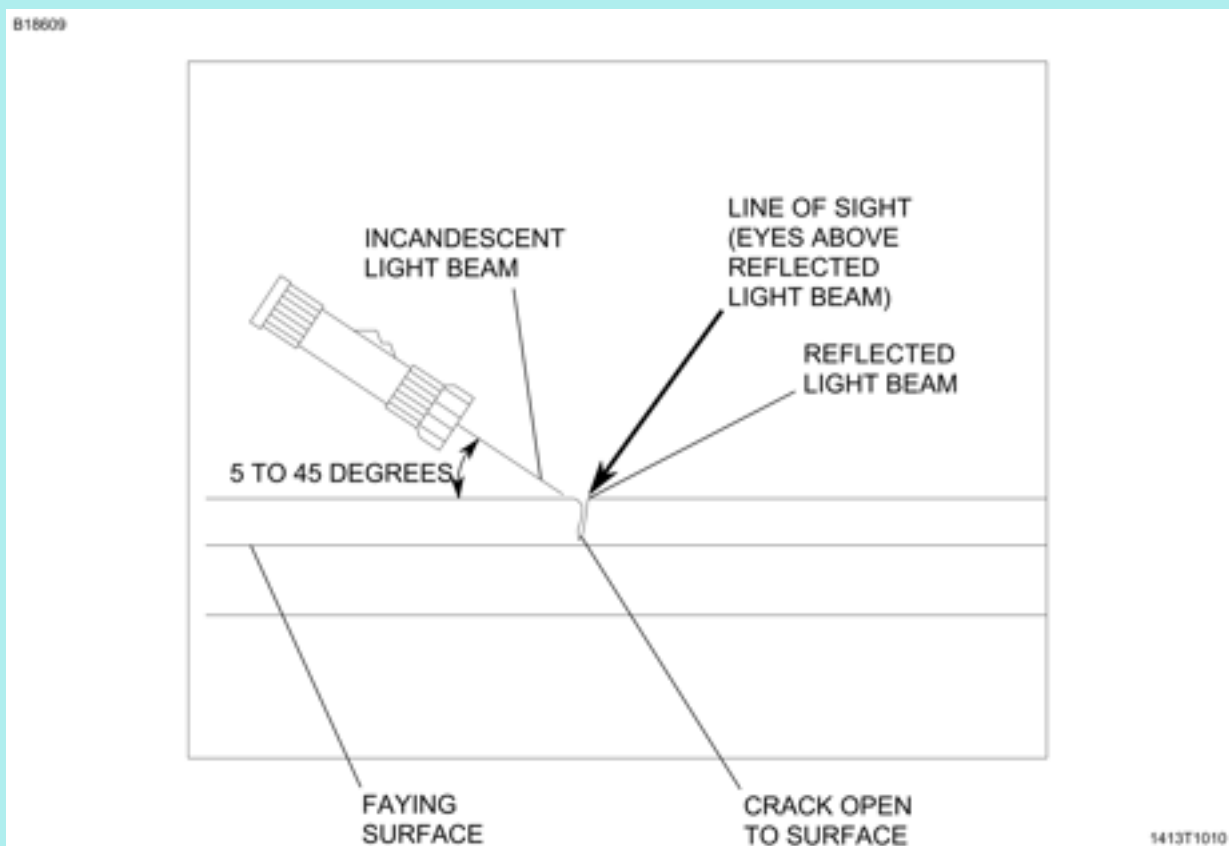

Figure 5
(a) Surface cracks. Refer to Figure 5. To look for surface cracks with a flashlight:
- 1 Point the light beam toward the face with between a 5° and 45° angle to the surface. Refer to Figure 5.